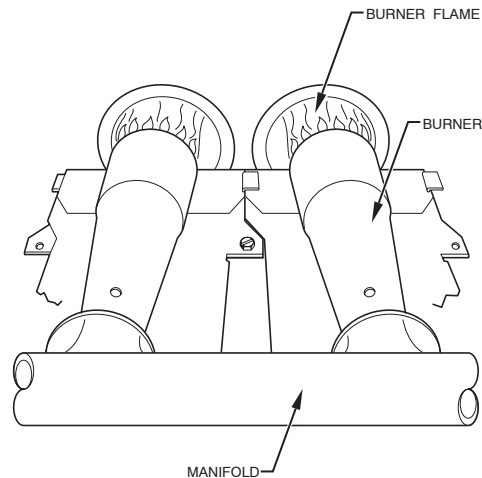

Fig. 11 – Burner Flame
- Replace burner enclosure front and verify adjusted gas input rate using method outlined in item 3.
- Look through sight glass in burner enclosure and check burner flame. Burner flame should be clear blue, almost transparent. (See Fig. 11.)
10. Check for correct burner flame. (See Fig. 11.)